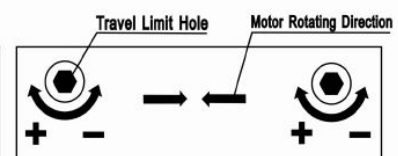

Fig.5
2. According to the motor's rotating direction and the adjusting instruction, Insert travel limit pole into its travel limit hole to adjust limit travel(end limit setting with drill is forbidden(Fig.6)): the direction of "+" will increase the shutter's travel; the direction of "-" will reduce the shutter's travel. (Fig.5)